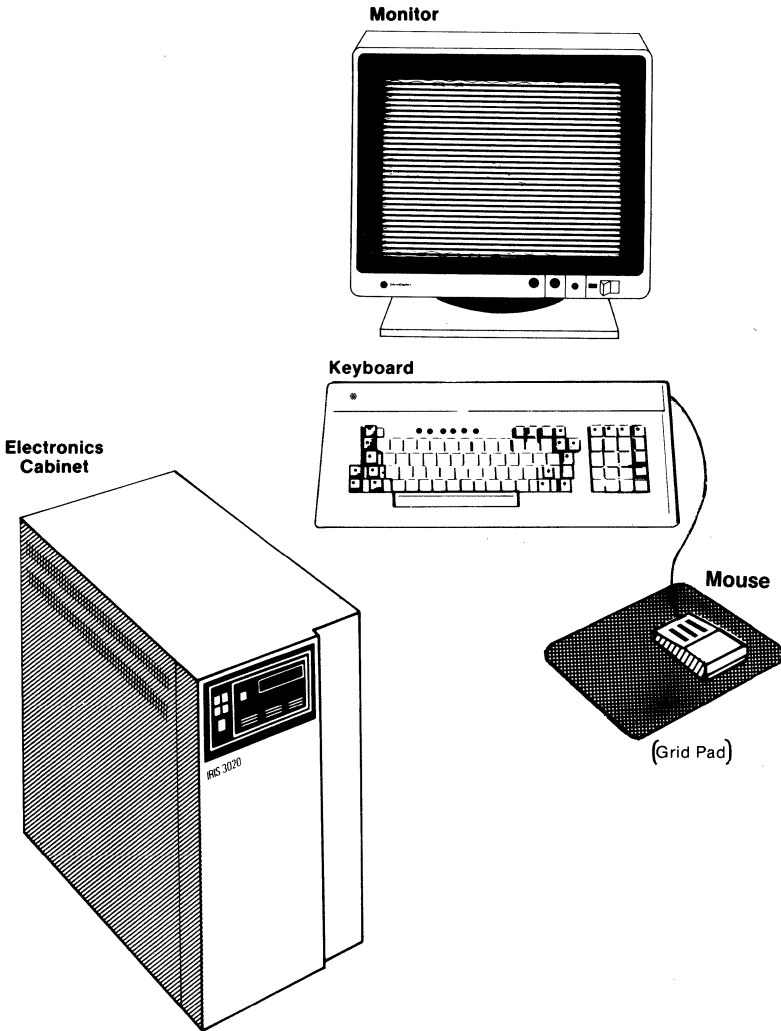
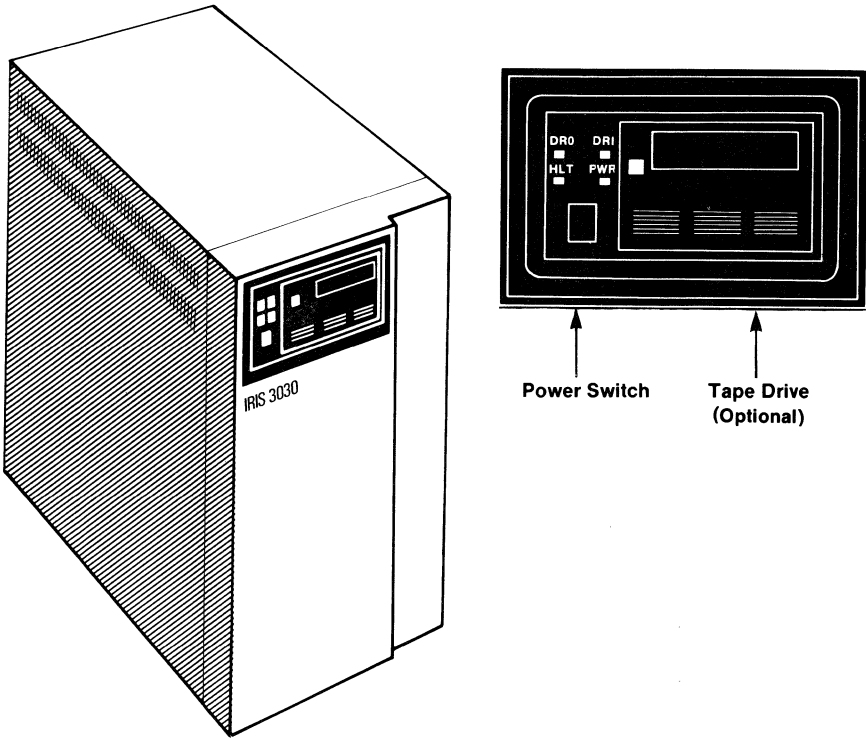
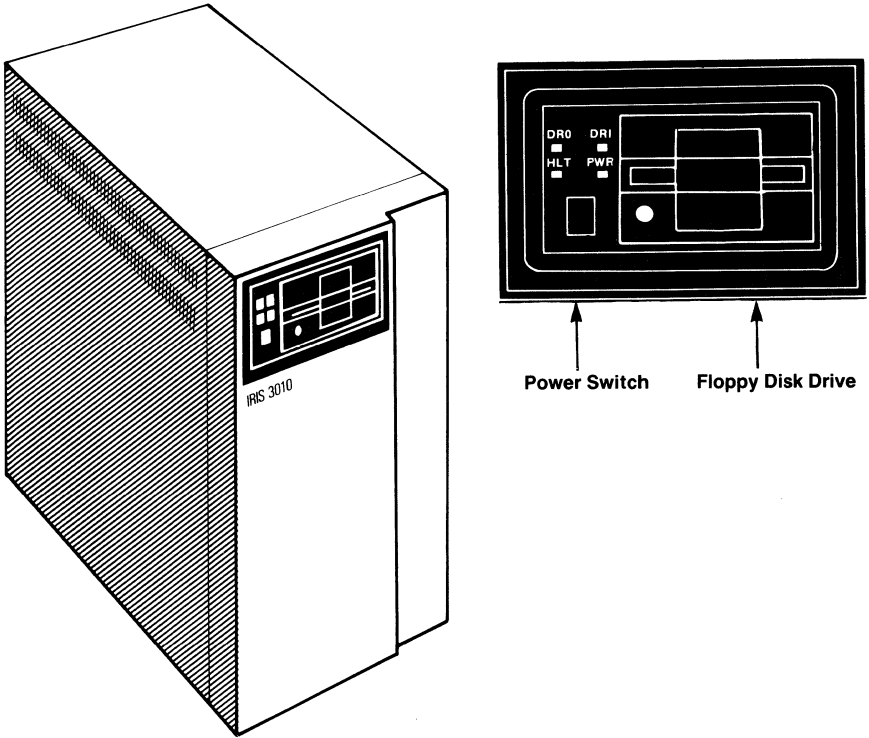

Figure 2-1: IRIS Series 3000 System
Figure 2-2: IRIS 3030 Cabinet Front Panel
Figure 2-3: IRIS 3010 Cabinet Front Panel
- The electronics cabinet for the standard configuration of the IRIS series 3000 is a floor-standing unit with a 20-slot backplane, a disk drive, and a power supply (see Figure 2-1). The cabinet uses forced-air cooling and is mounted on casters. A quarter-inch cartridge tape drive (internal) or a half-inch streaming tape drive (external) is optional on the IRIS workstation (see Figure 2-2). A floppy disk drive is standard on the IRIS terminal (see Figure 2-3). See Chapter 7 for tape specifications.